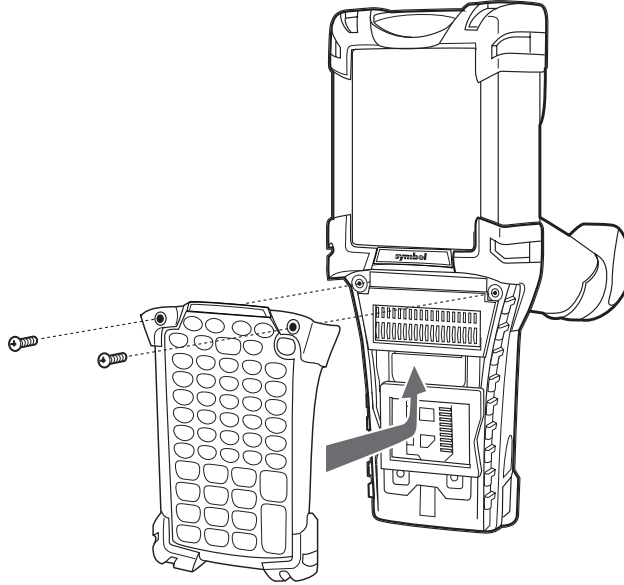

Figure 7-2. Installing the Keypad
5. Replace the keypad and re-attach using the two screws (see Figure 7-2 on page 7-8).